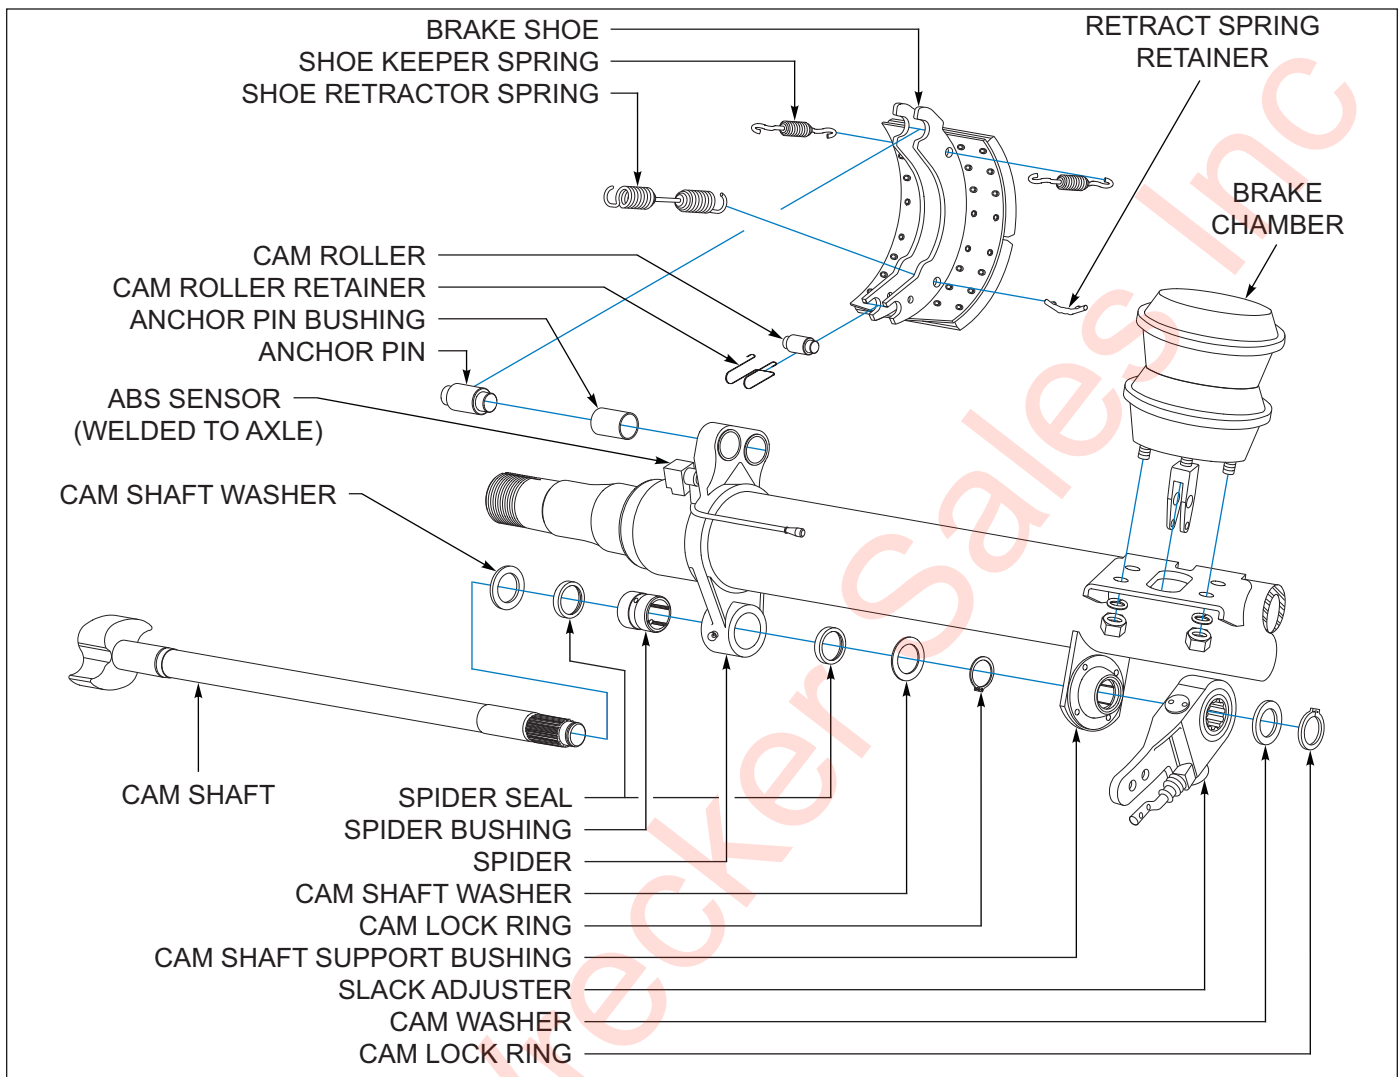

Figure 5-17: Axle and Brake Assembly
1. Install new anchor pin bushings, camshaft bushing and camshaft seals into the spider. *See Figure 5-17.*
2. Check that the push rod is fully retracted, apply air to release spring brake. **See Figure 5-17.**
3. Remove the existing slack adjuster and clevis - **DO NOT REMOVE EXISTING JAM NUT**. *See Figure 5-17.*
1. Rotate the manual adjuster clockwise until brake shoes contact drum. *See Figure 5-17.*
4. Remount the brake chamber on the axle brackets and reconnect the air service hoses and the slack adjuster connecting rod. See Figure 5-17.